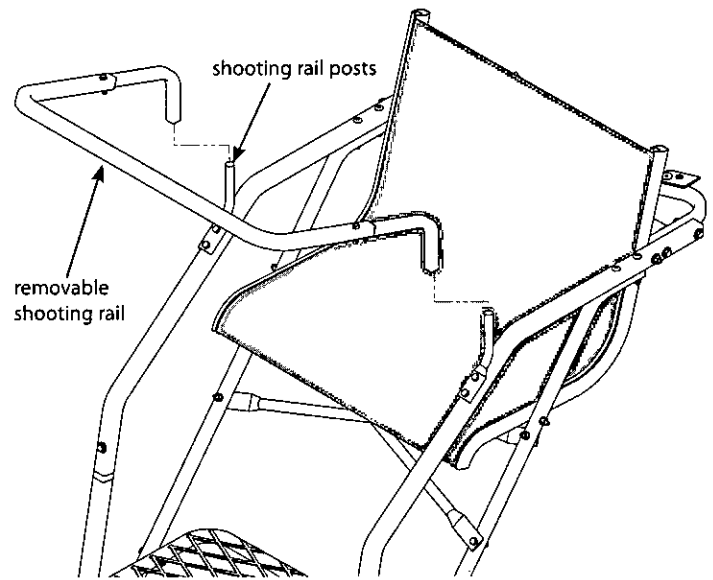
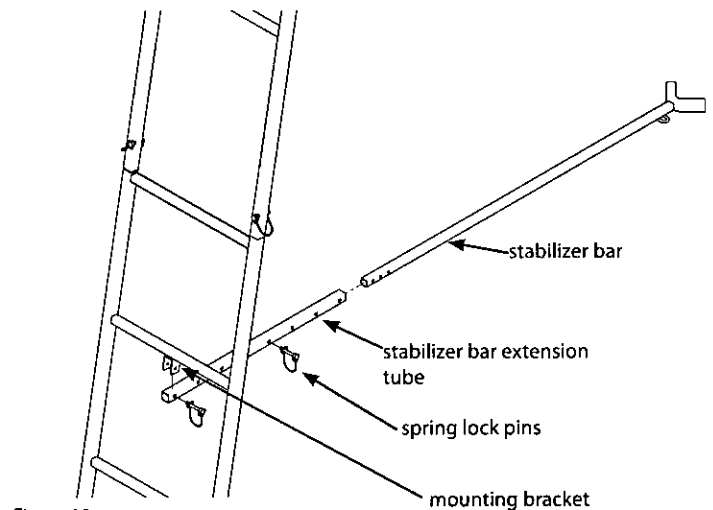

Figure 9
Figure 10
12. a. Attach the removable shooting rail by setting rail down over the bolt-on posts. **SEE FIGURE 9.** Lubrication is recommended to prevent binding and noise.
b. Attach the (2) provided 9" and (1) provided 18" camo foam pads to the main side rails (armrests) and shooting rail by wrapping around tubing and attaching Velcro together.
13. a. Attach the stabilizer bar extension tube (1ML23) to the second ladder section mounting bracket using (1) provided spring lock pin. **SEE FIGURE 10.**
b. Slide the stabilizer bar (L17) into the extension tube and attach the two pieces together using (1) provided spring lock pin. Spring lock pin must go through both the extension tube and stabilizer bar at appropriate hole to achieve desired distance from tree. Adjustment in length may be needed when ladder is uprighted later in instructions. **SEE FIGURE 10.**